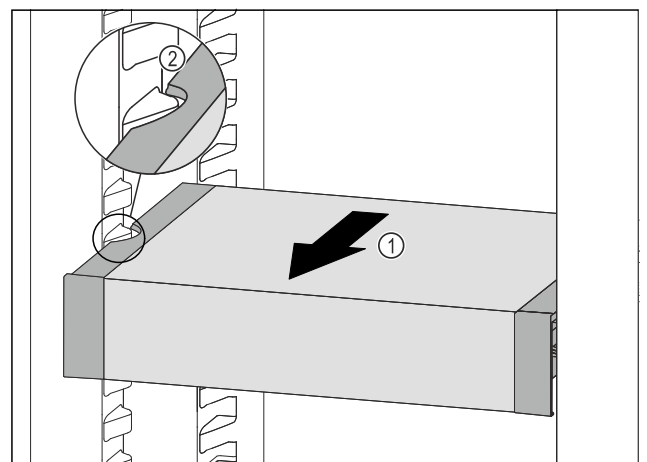

Fig. 173
- ▶ Pull VarioSafe forwards Fig. 173 (1) until the recesses in the side of the VarioSafe are at the level of the support rib in the fridge section. Fig. 173 (2)